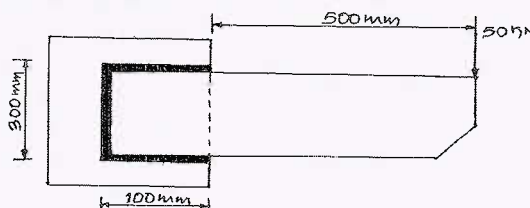

Fig.Q7(b)
b. Determine the size of the weld required for an eccentrically loaded weld as shown in Fig.Q7(b). The allowable stress in the weld is  $75 \text{ N/mm}^2$ .